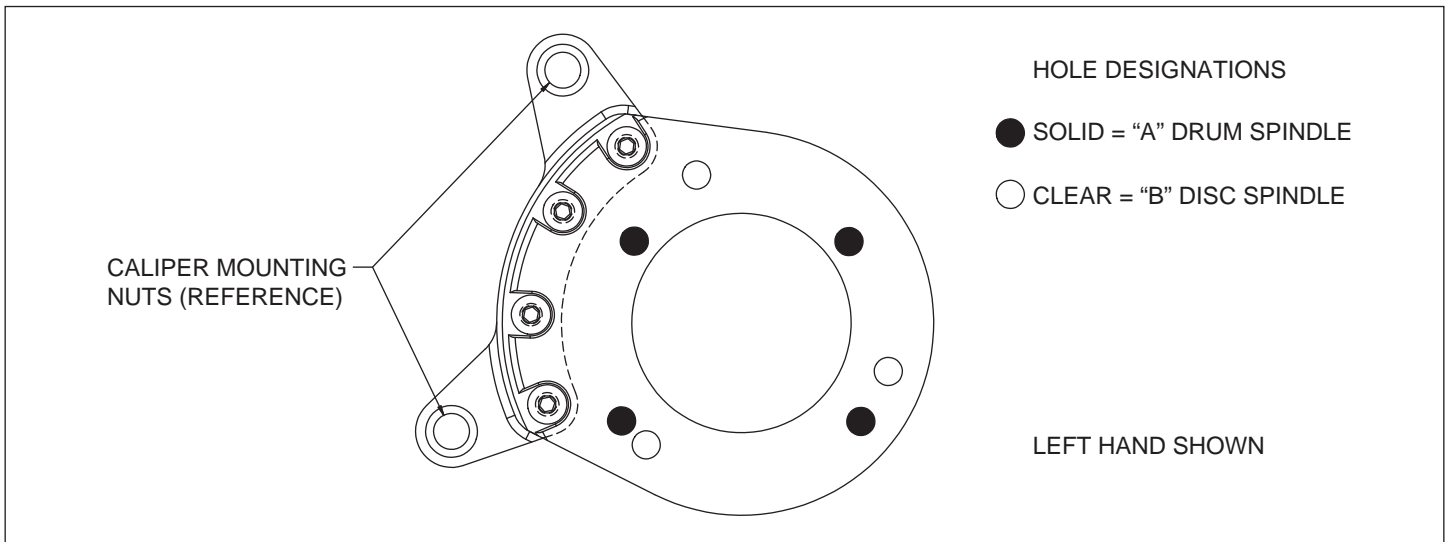
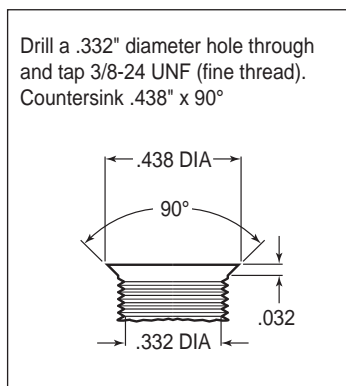
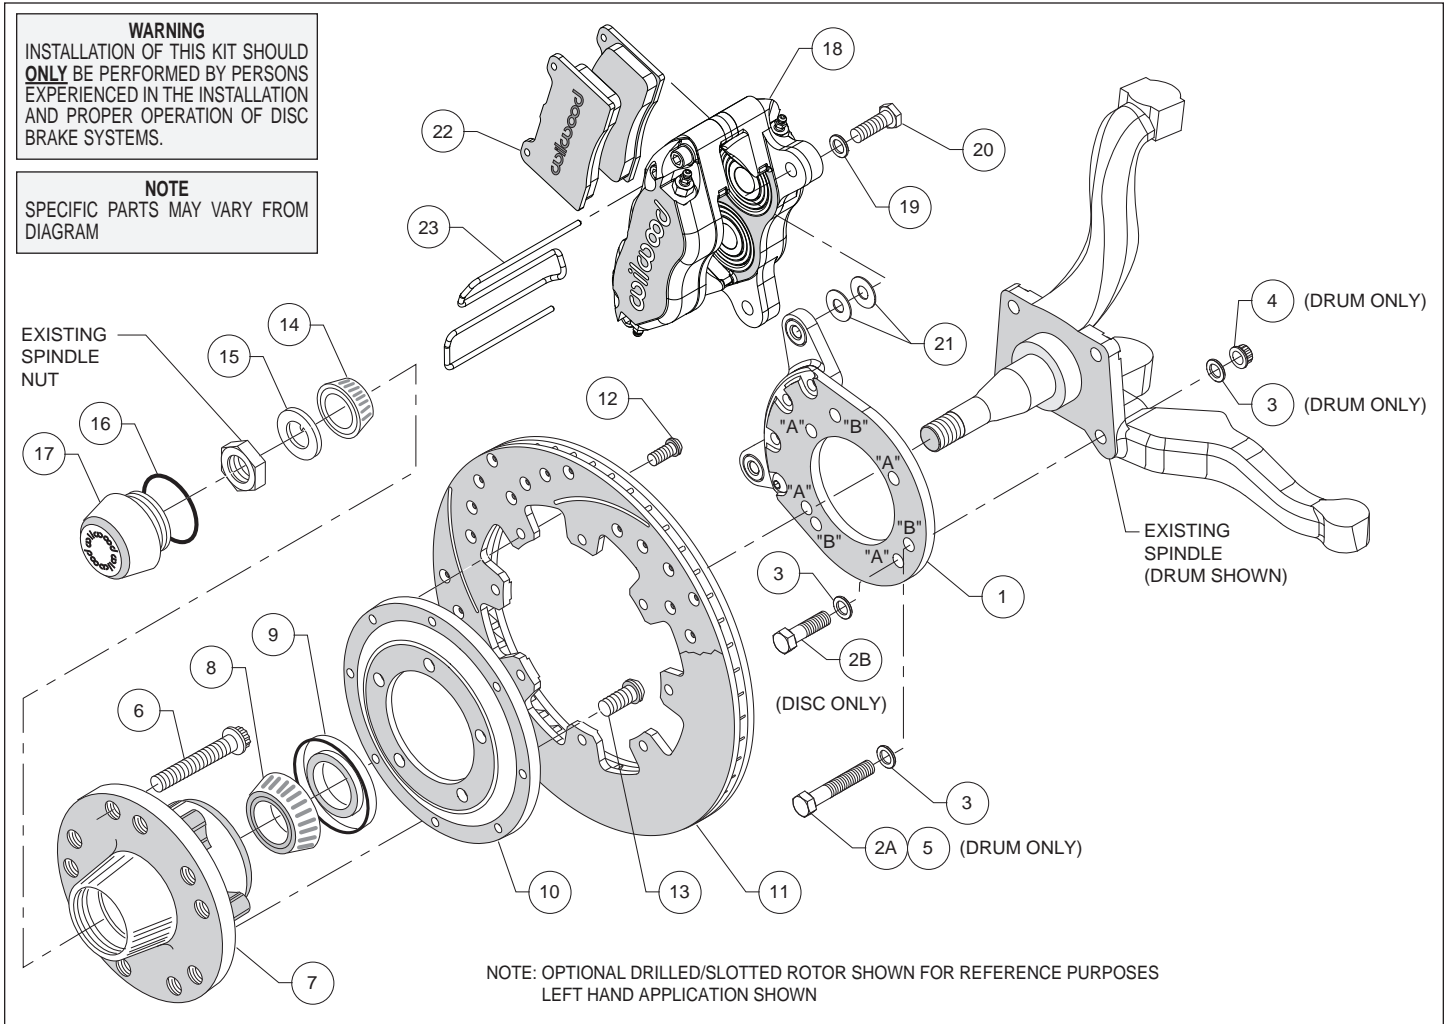
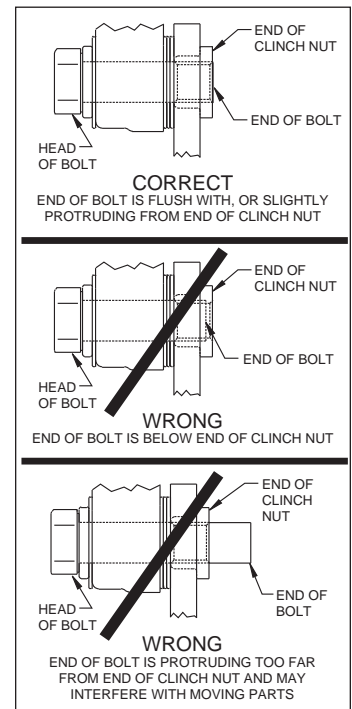

Figure 1. Wilwood Caliper Mounting Bracket
Figure 2. Drill and Tap Detail
Figure 4. Typical Installation Configuration
Figure 5. Clinch Nut Engagement Diagram
This kit has been designed for use with both the disc brake or the drum brake configuration of vehicle. The only difference is in how the Wilwood caliper mounting bracket is installed. The same bracket is used for both configurations; the disc brake version utilizes three mounting holes while the drum brake application uses four mounting holes (see Figure 1). For your convenience we have supplied bolt kits for both applications (see parts list and Figure 4 as necessary). Use the bolt kit that is applicable to your vehicle and disregard the other one.
Using the caliper mounting bracket as a template (refer to Figure 1 as necessary), locate and verify the three original holes on the spindle that need to be modified. Drill a .332" diameter hole through all three holes, then tap 3/8-24 UNF (fine thread). Countersink the holes to .438" diameter x 90°, as shown in Figure 2.
**Assembly Instructions** (numbers in parenthesis refer to the parts list, and Figure 4 on the preceding pages): **CAUTION:** All mounting bolts must fully engage clinch nuts. Be sure to check that all bolts are either flush or protruding through flanged side of clinch nut after shimming, Figure 5.
•**NOTE:** This kit uses the same mounting bracket (1) for both the drum and disc brake spindles. The drum version, Photo 1, uses four mounting bolts (designated "A"), while the disc version, Photo 2, uses three (designated "B"). Refer to Figures 1 and 4 for the basic installation position of the bracket and the "A" and "B" reference designations (not physically marked on the brackets).
**For Drum Spindle:** Align bracket, using the four "A" holes, to the face of the spindle and attach using bolts (2A and 5), washers (3), and lock nuts (4), as shown in Figure 4. Ensure that the flanged heads of the clinch nuts in the bracket are facing outboard, Photo 1. Torque nuts to 30 ft-lb.
**For Disc Spindle:** Align bracket, using the three “B” holes, to the face of the spindle and attach using bolts (2B) and washers (3), as shown in Figure 4. Finger tighten. Ensure that the flanged heads of the clinch nuts in the bracket are facing outboard, Photo 2. Remove bolts one at a time, apply red *Loctite*® 271 to threads, and torque to 40 ft-lb.
- Orient the rotor (11) and the rotor adapter (10) as shown in Figure 4 and Photo 5. Attach the rotor to the adapter using bolts (12). Using an alternating sequence, apply red *Loctite*® 271 to the threads, and torque to 25 ft-lb.
- Mount the adapter/rotor assembly (10/11) to the hub (7) using bolts (13), as shown in Figure 4 and Photo 6. Using an alternating sequence, apply red *Loctite*® 271 to the threads, and torque to 55 ft-lb.
- Pack the small outer bearing cone (14) with high temperature disc brake bearing grease and install into hub (7). Slide the hub/rotor assembly onto the spindle. Secure using spindle washer (15) and OEM spindle nut, Photo 7. Adjust bearings per OEM specifications. Install saved OEM nut lock (if any) and a new cotter pin (not included).
- Screw dust cap (17) into hub (7), Photo 8. Friction created by the o-ring (16) on the dust cap keeps it from unscrewing. **NOTE:** The O.D. of the existing OEM spindle washer may be larger than the I.D. of the dust cap not allowing it to seat against the hub face. Therefore, use the spindle washer (15) supplied with the kit instead of the OEM washer.
- NOTE:** Please reference the caution statement at the beginning of the assembly instructions. Mount the caliper (18) onto the caliper mounting bracket (1) using bolts (20) and washers (19), as shown in Figure 4. Initially place two .035” thick shims (21) on each bolt between the caliper and the bracket, Photo 9. Temporarily tighten the mounting bolts and view the rotor (11) through the top opening of the caliper. The rotor should be centered in the caliper, Photo 10. If not, adjust by adding or subtracting shims between the bracket and the caliper. Always use the same amount of shims on each of the two mounting bolts. **NOTE:** The end of each bolt must be flush with or slightly protruding from the head of the clinch nut, as shown in Figure 5. If necessary place spare shims between washer (19) and caliper